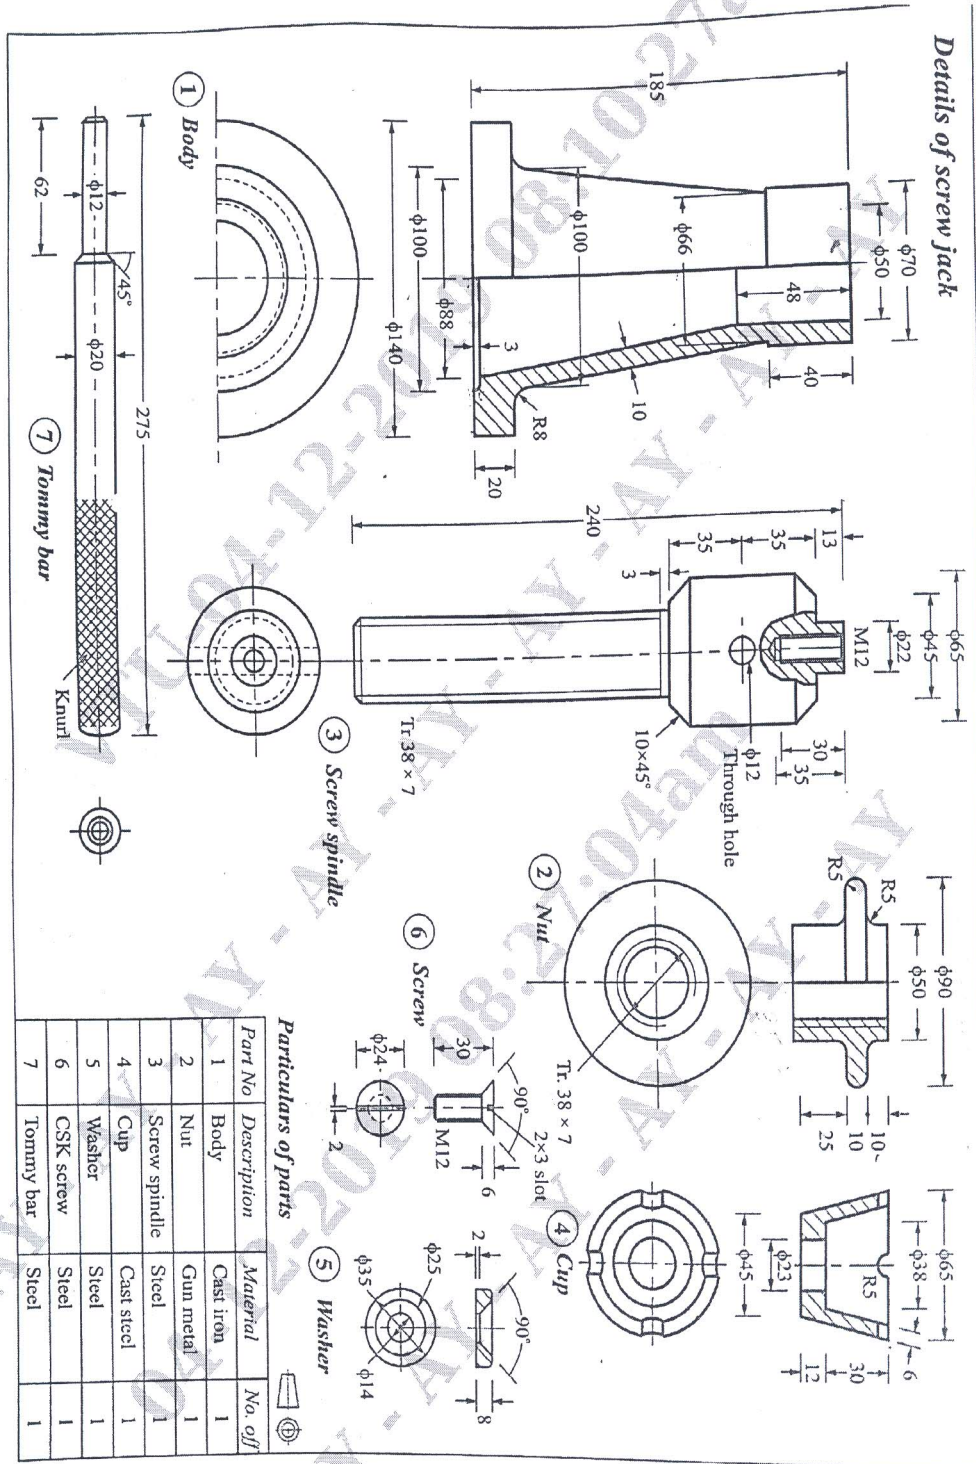

Figure 1: Details of Screw Jack
Q. No. 5 Figure: 1 Shows the details of "Screw Jack". Assemble the parts and draw the following: a) Sectional front view b) Top view.